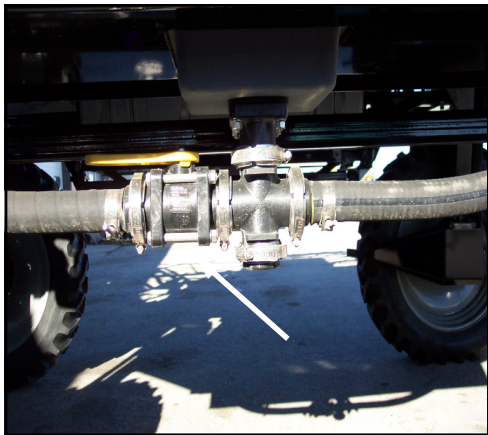

FIG 5.37
To shutoff either or both solution tank sumps, manually close either or both 1½" ball valve(s) located under each solution tank (fig 5.37). Your sprayer is equipped with optional 1½" electric tank shutoff valves (fig. 5.38, item 3).